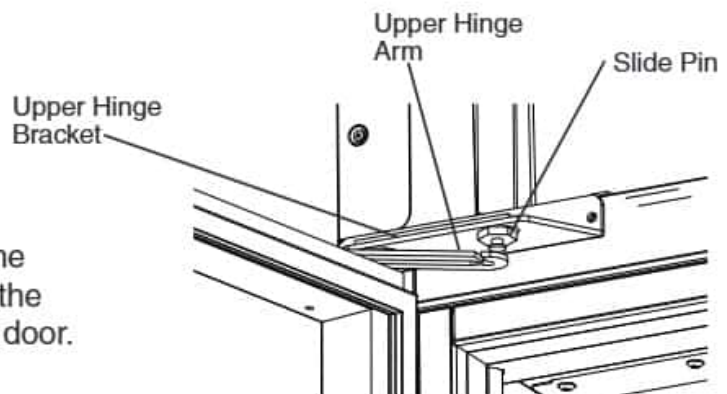

Fig. 67
- 20) Open the upper door and connect the upper hinge arm to the slide pin on the upper hinge bracket, then close the door. See Fig. 67.